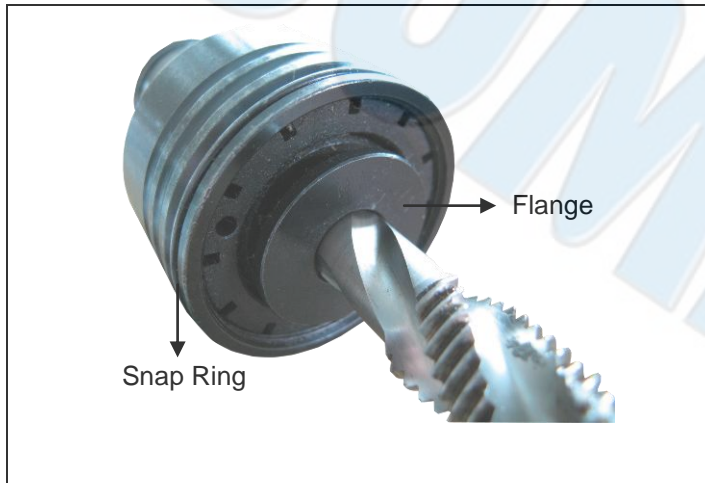

Figure 7-1
- (1) Slide tap into tap holder until tap locks in place. Tap can be removed by simultaneously depressing flange and pulling out tap (see Figure 7-1).
- (1) Remove the snap ring from the groove of the tap holder (see Figure 7-1).